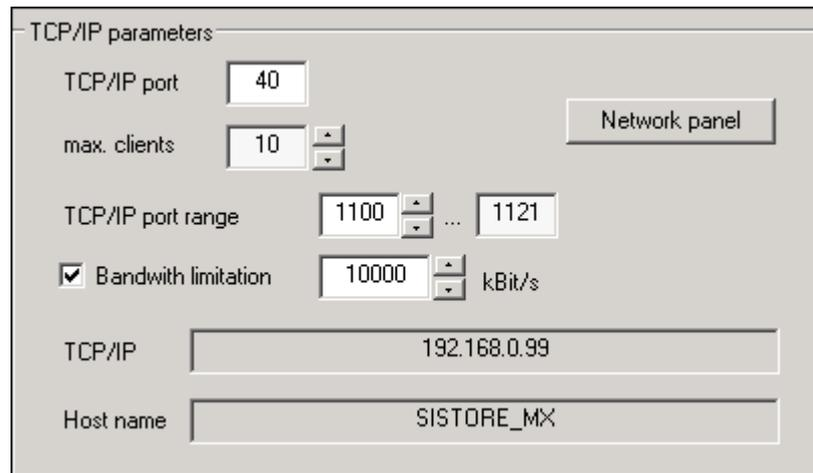

Fig. 11 TCP/IP parameters group on the Network tab
2. Mark the checkbox **Allow network access** (see "Fig. 11 ", page 26).